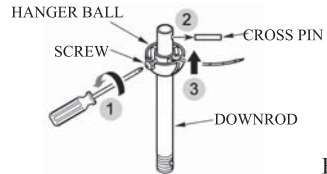

FIG.4
2. Remove hanger ball from downrod assembly by loosening set screw, removing the cross pin, and sliding hanger ball off downrod. ( See Fig. 4 )